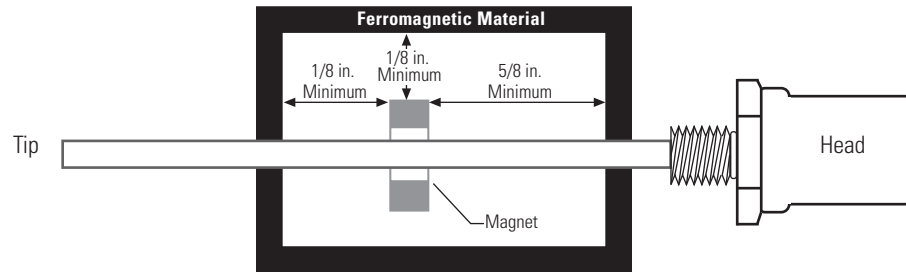

Figure 2-3a
2. Install the permanent magnet over the LDT rod. Mount the permanent magnet to the movable device whose displacement will be measured. To minimize the effect of magnetic materials (i.e. iron, steel, etc.) on the magnetic field of the permanent magnet, ensure the minimum spacing requirements are met as shown in Figure 2-3a-c. (Any non-magnetic materials can be in direct contact with the permanent magnet without affecting performance.)